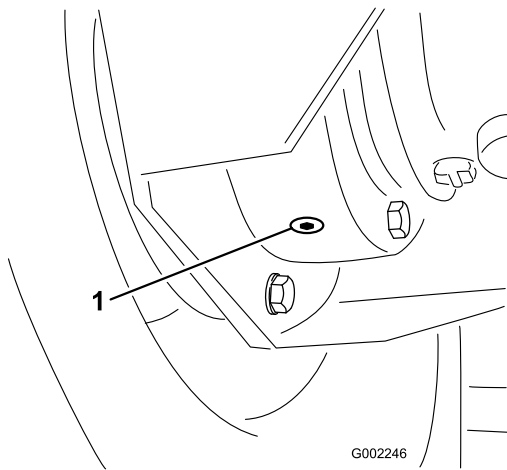

Figure 62
4. Place a pan under the inner drain plug and remove it (Figure 62).